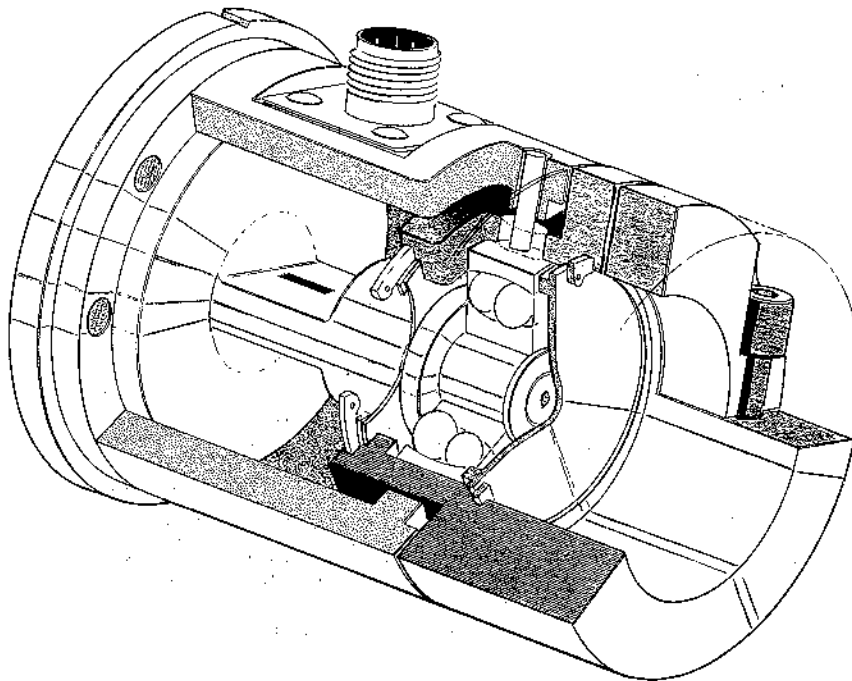

FIGURE 1
1.1 CONSTRUCTION AND MECHANICAL OPERATION (see Figure 1.)